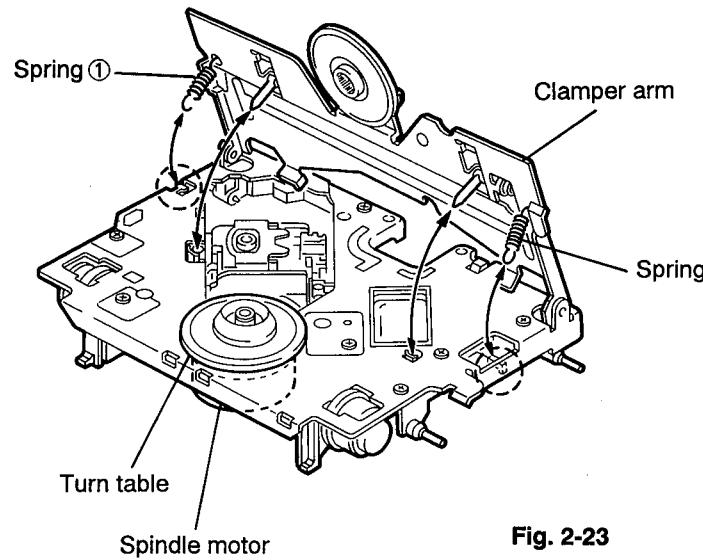

Fig. 2-23
1. After turning back the CD mechanism to initial position, remove the two springs ④ and ⑤ on both the right and left sides of the clamer arm (See Figs. 2-23 and 2-24).